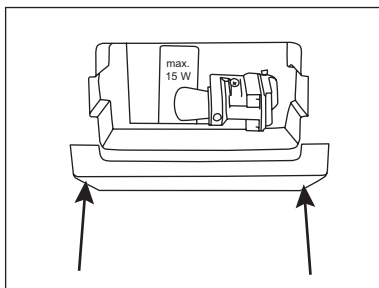

fig. 9
2. Remove the lamp cover by pressing it together to release it from the two clips (fig. 9).